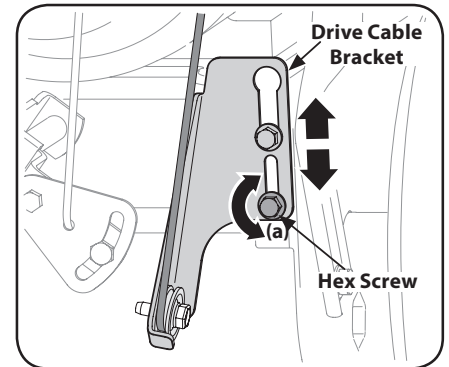

Figure 4-10
2. Loosen lower hex screw (a) on drive cable bracket. See Figure 4-10.